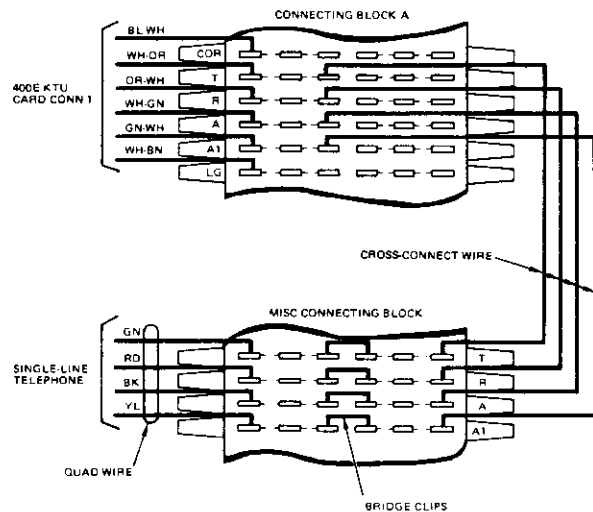

Figure 8: Connecting Details, Line KTU to Single-Line Station
3.16 For a single-line telephone used as a line answering station, cross-connect the T, R, A, and A1 terminals on connecting block A, B, or C to the corresponding terminals on the MISC connecting block. Use bridge clips to complete the connections to the single-line telephone. Refer to Figure 8.